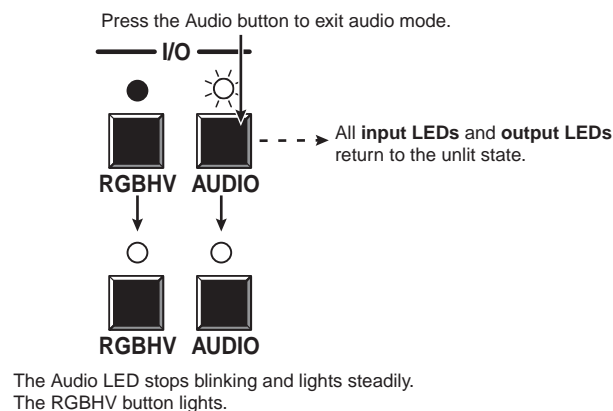

Figure 3-55 — Deselect Audio mode
5. Press and release the Audio button (figure 3-55).